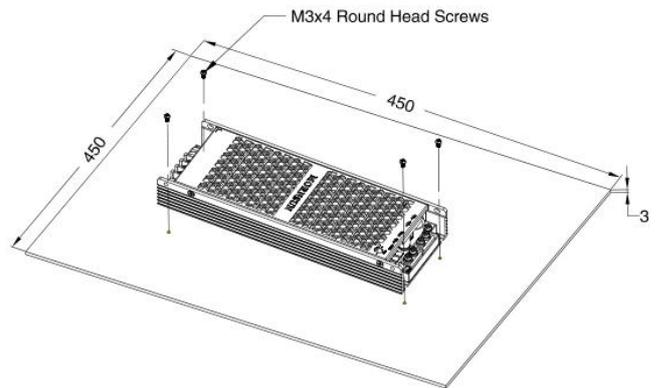

Figure 2
2. Figure 2 is the schematic diagram of the bottom installation, install with M3 x 4 round head screws, it is necessary to apply thermal grease on the bottom of the product, derating refer to with aluminum plate curve.